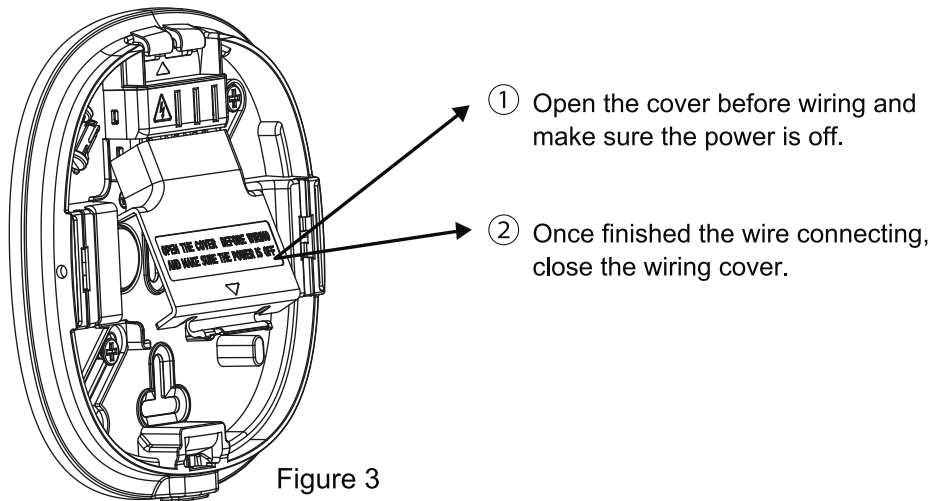
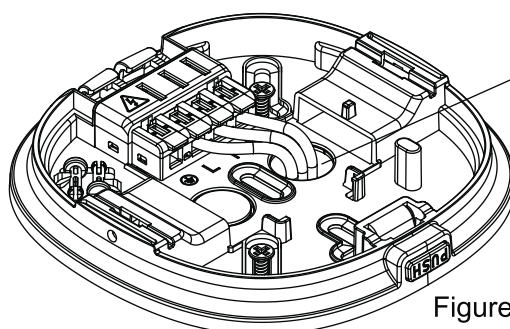

Figure 3
Figure 7
- Terminate the live, neutral and earth supply cables and interlink cable if alarms are interlinked. See Figure 3 to Figure 7.